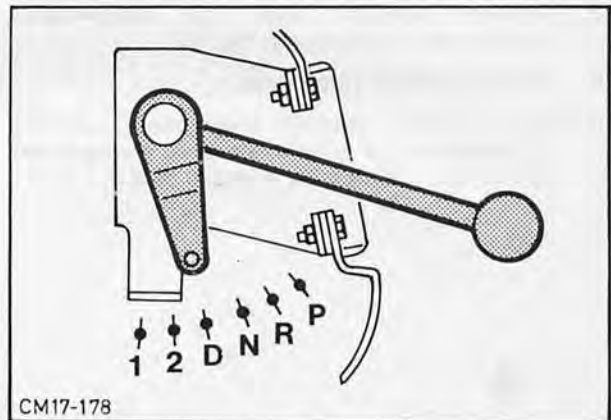

Fig. 54. Selector lever in 'D' position
14. Engage selector lever in 'D' position, Fig. 54.